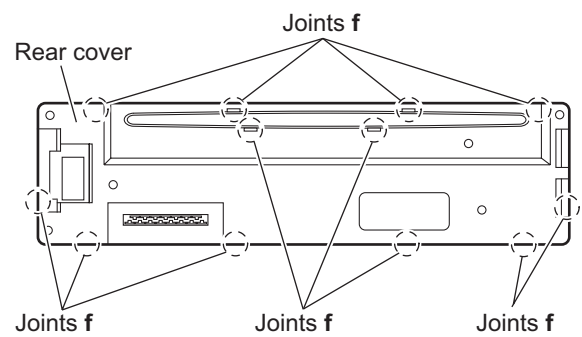

Fig.9
- Release the twelve joints **f** and remove the rear cover. (See Fig.9.)